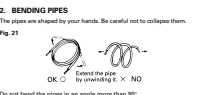

Fig. 20
- When the outdoor unit will be exposed to strong wind, fasten it with bolts at the places indicated by the arrows (Fig. 20).
- Check if the flare part "L" (Fig. 20) is formed uniformly and that there are no cracks.